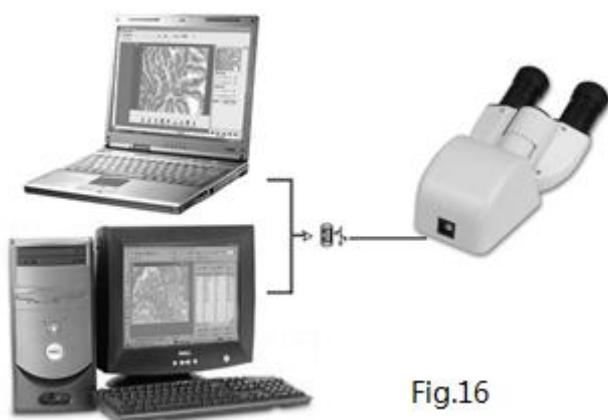

Fig.16
- 8.2 Put the end of USB cable into USB port of the back of the computer, the other end into USB port of the back of equipment, software installation see "PHMIAS family of software instruction manual" (Fig 16).